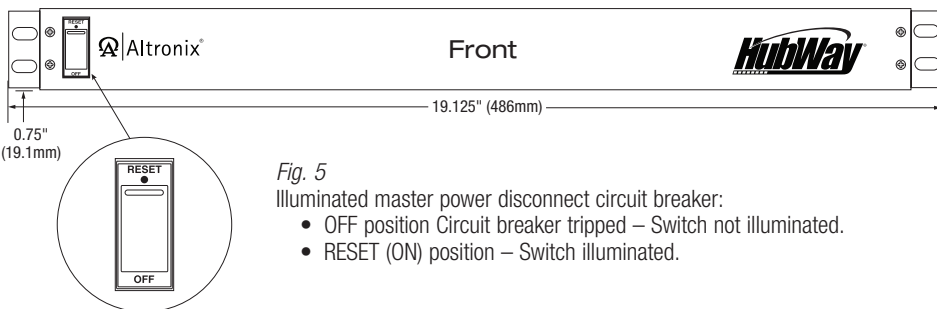

Fig. 5
3. Set illuminated master power disconnect circuit breaker to the (OFF) position (Fig. 5, pg. 7).
9. Set illuminated master power disconnect circuit breaker to the RESET (ON) position (Fig. 5, pg. 7) and measure the output voltage at the power output of each Video Balun/Combiner (Figs. 2b, 2d, pg. 5) before powering each camera to ensure proper operation and avoid possible damage.
10. Set illuminated master power disconnect circuit breaker to the (OFF) position to make the final connections (Fig. 5, pg. 7).
14. Upon completion of wiring set illuminated master power disconnect circuit breaker to the RESET (ON) position (Fig. 5, pg. 7).